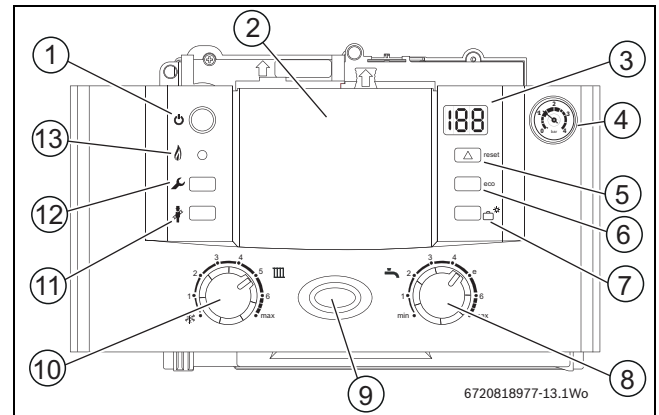

Fig. 33 Fascia guide
- Refer to figure 33 for control panel guide